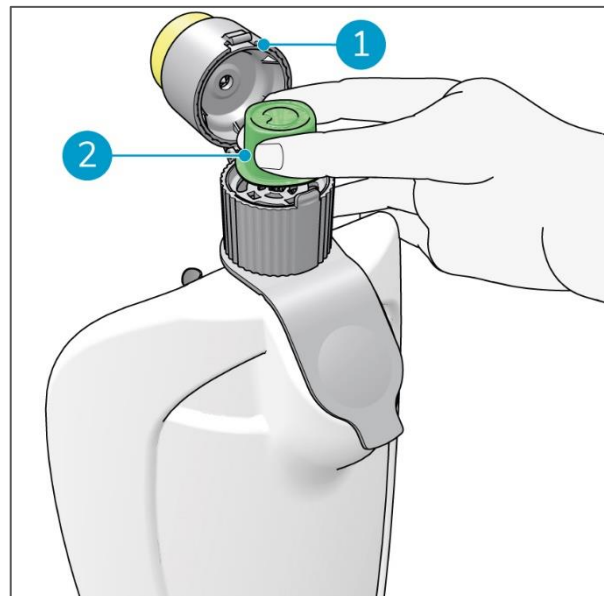

Figure 11
1. Open the injector top (Figure 11, pos 1).
2. Remove the empty pod (Figure 11, pos 2) by slightly pinching it between your thumb and forefinger to minimize chemical contact.
6. Place the pod in the pod injector with the i-dose logo facing upwards (Figure 11, pos 2).